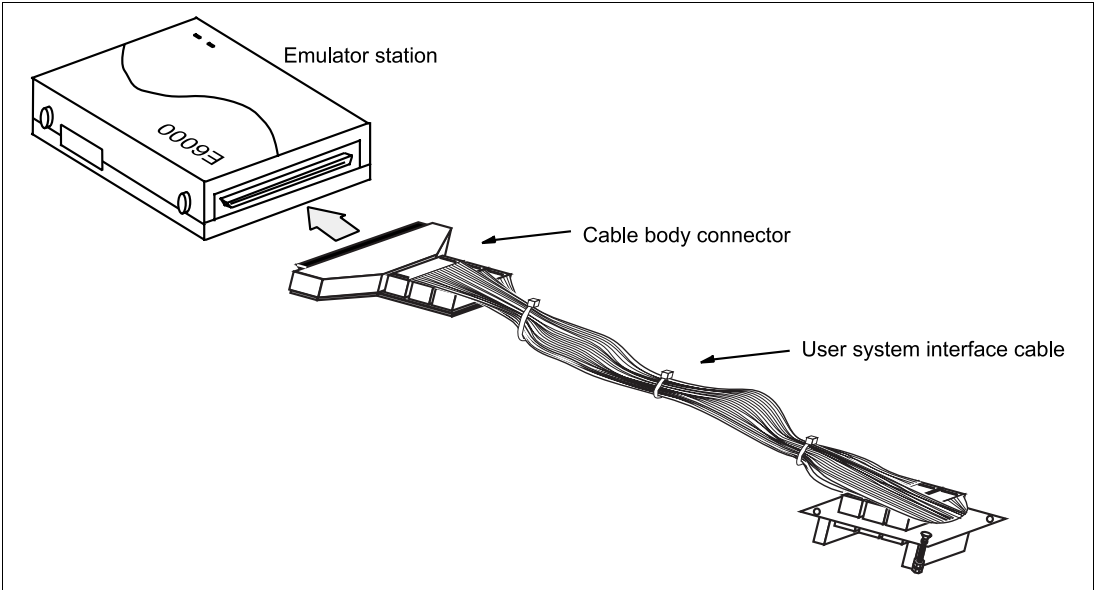

Figure 8 Connecting User System Interface Cable to Emulator Station
2. After making sure the direction of the cable body connector is correct, firmly insert the cable body connector into the emulator station socket (figure 8).